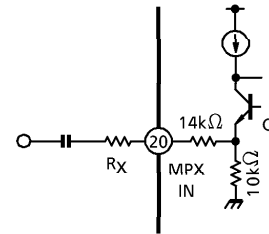

Fig.2 Internal circuit of MPX IN terminal
This IC can attenuate only FM stereo main signal level. Because MPX input for main signal (pin⑳) is independent of that for pilot signal (pin㉑), this terminal is shared with AM input). Internal circuit of MPX IN terminal (pin⑳) is shown in Fig.2. FM stereo main signal level can be attenuated by connecting an external resistor R_X . Because FM stereo main signal level is attenuated by internal resistor ($14k\Omega$ and $10k\Omega$) and resistor R_X . And it is applied to an emitter of transistor Q.